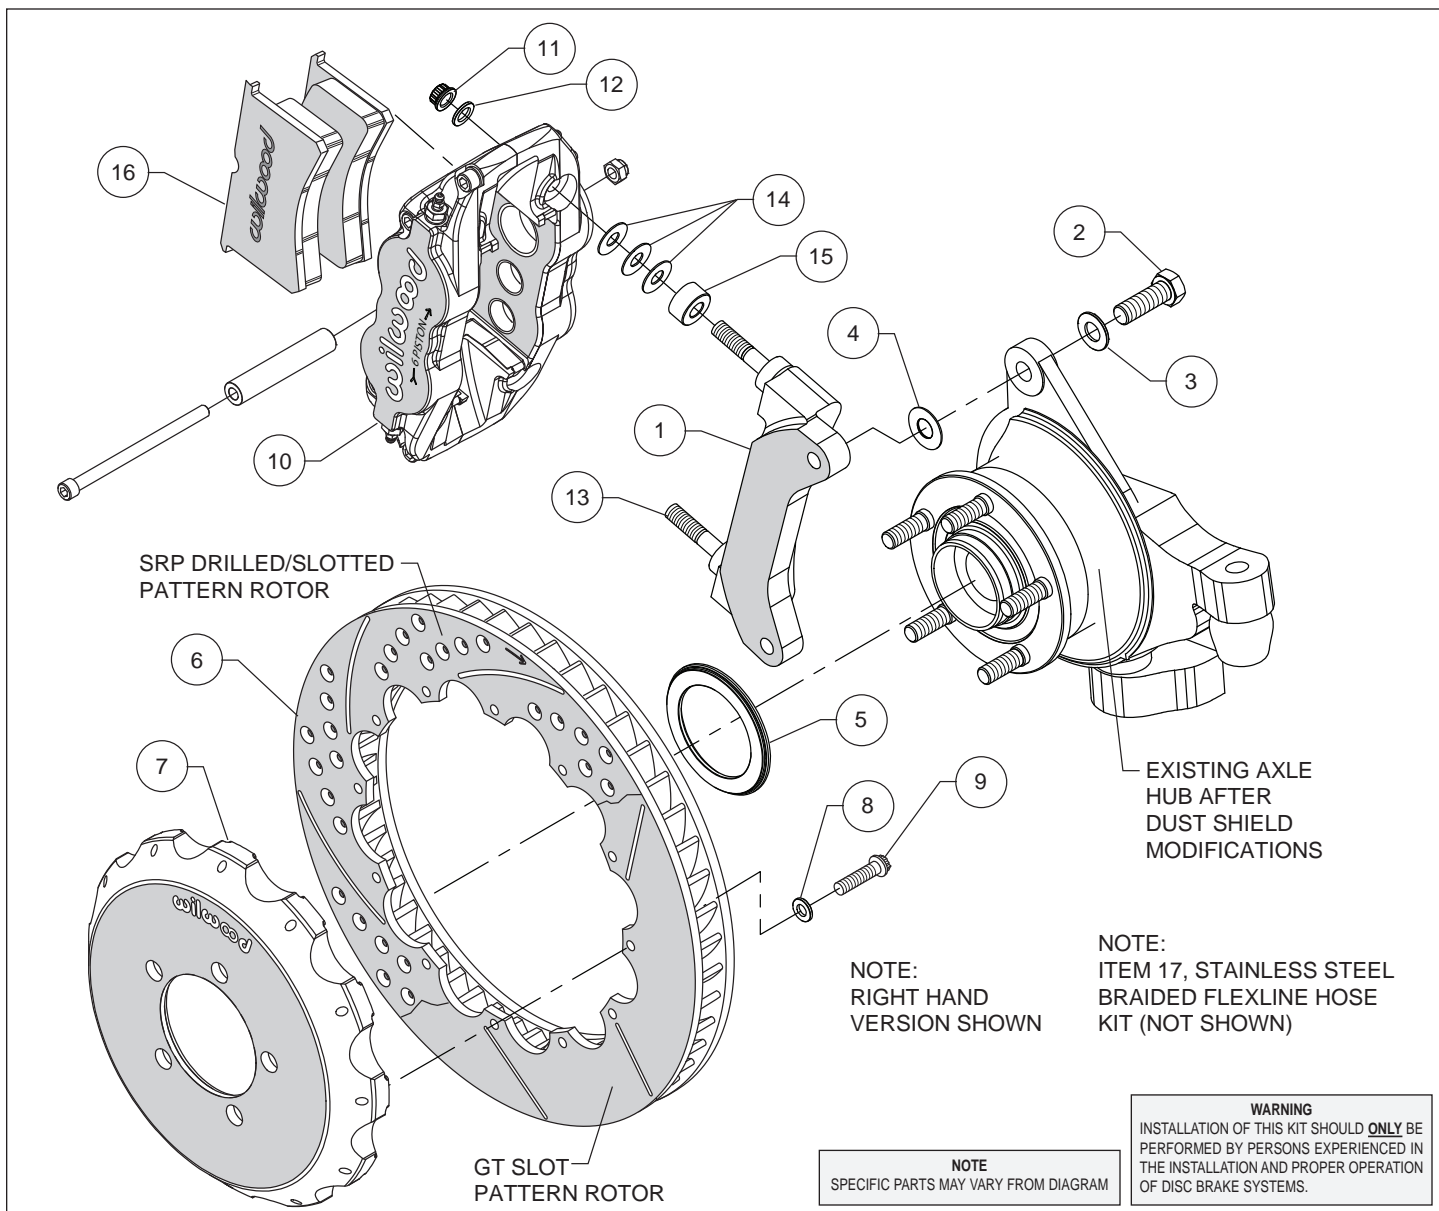
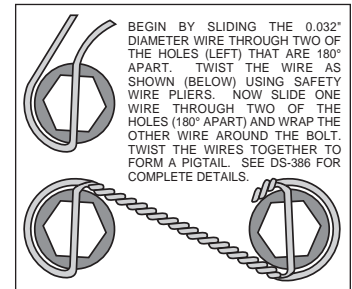

Figure 1. Typical Installation Configuration
Figure 4. Safety Wire Diagram
Assembly Instructions (numbers in parenthesis refer to the parts list and Figure 1 on the preceding pages):
- The caliper mount bracket (1) should initially be installed with clean, dry threads on the mounting bolts. Orient the bracket as shown in Figure 1, and install using washers (3) and bolts (2). Initially place one shim (4) on each bolt between the bracket and upright, Figure 1. Temporarily tighten the mounting bolts. **NOTE:** The bracket must fit squarely against the mount bosses on the upright. Inspect for interference from casting irregularities, machining ridges, burrs, etc. Later, after the caliper alignment has been checked, the mount bolts will be secured using red *Loctite*® 271.
- Orient the rotor (6) and the hat (7) as shown in Figure 1 and Photo 1. Attach rotor to hat using bolts (9) and washers (8). Using an alternating sequence, apply red *Loctite*® 271 to the threads, and torque to 155 **in-lbs**. For an added measure of security, the bolts may be safety wired using standard 0.032 inch diameter stainless steel safety wire as shown in Figure 4. Please refer to Wilwood's data sheet DS-386 (available at www.wilwood.com/Pdf/DataSheets/ds386.pdf) for complete safety wire installation instructions.
- Slide the rotor registration adapter (5) onto the axle register on the axle hub with the smaller O.D. facing outward, Photo 2. Slide the hat/rotor assembly onto the axle hub. **NOTE:** The hat must fit flush against the axle hub flange or excessive rotor run out may result. Install three lug nuts (finger tight) to keep the hat/rotor assembly in place while continuing with the installation.
- NOTE:** This kit contains distinct right and left hand calipers that must be mounted in a specific direction, as described below. Lubricate the caliper mounting studs (13) with lightweight oil. Initially place three .035" thick shims (14) and spacer (15) on each stud as shown in Figure 1 and Photo 3. Mount the caliper (10) onto the bracket (1) using lock nuts (11) and washers (12), Figure 1. Ensure that the caliper is mounted so that the largest pistons are at the rotor exit end of the caliper, in relation to the direction of rotor rotation. Temporarily tighten the lock nuts and view the rotor through the top opening of the caliper. The rotor should be centered in the caliper, Photo 4. If not, adjust by adding or subtracting shims (4) between the bracket and the upright. Always use the same amount of shims on each of the two mounting bolts. Once the caliper alignment is correct, remove the bracket mounting bolts (2) one at a time, apply red *Loctite*® 271 to the threads, and torque to 60 ft-lb.